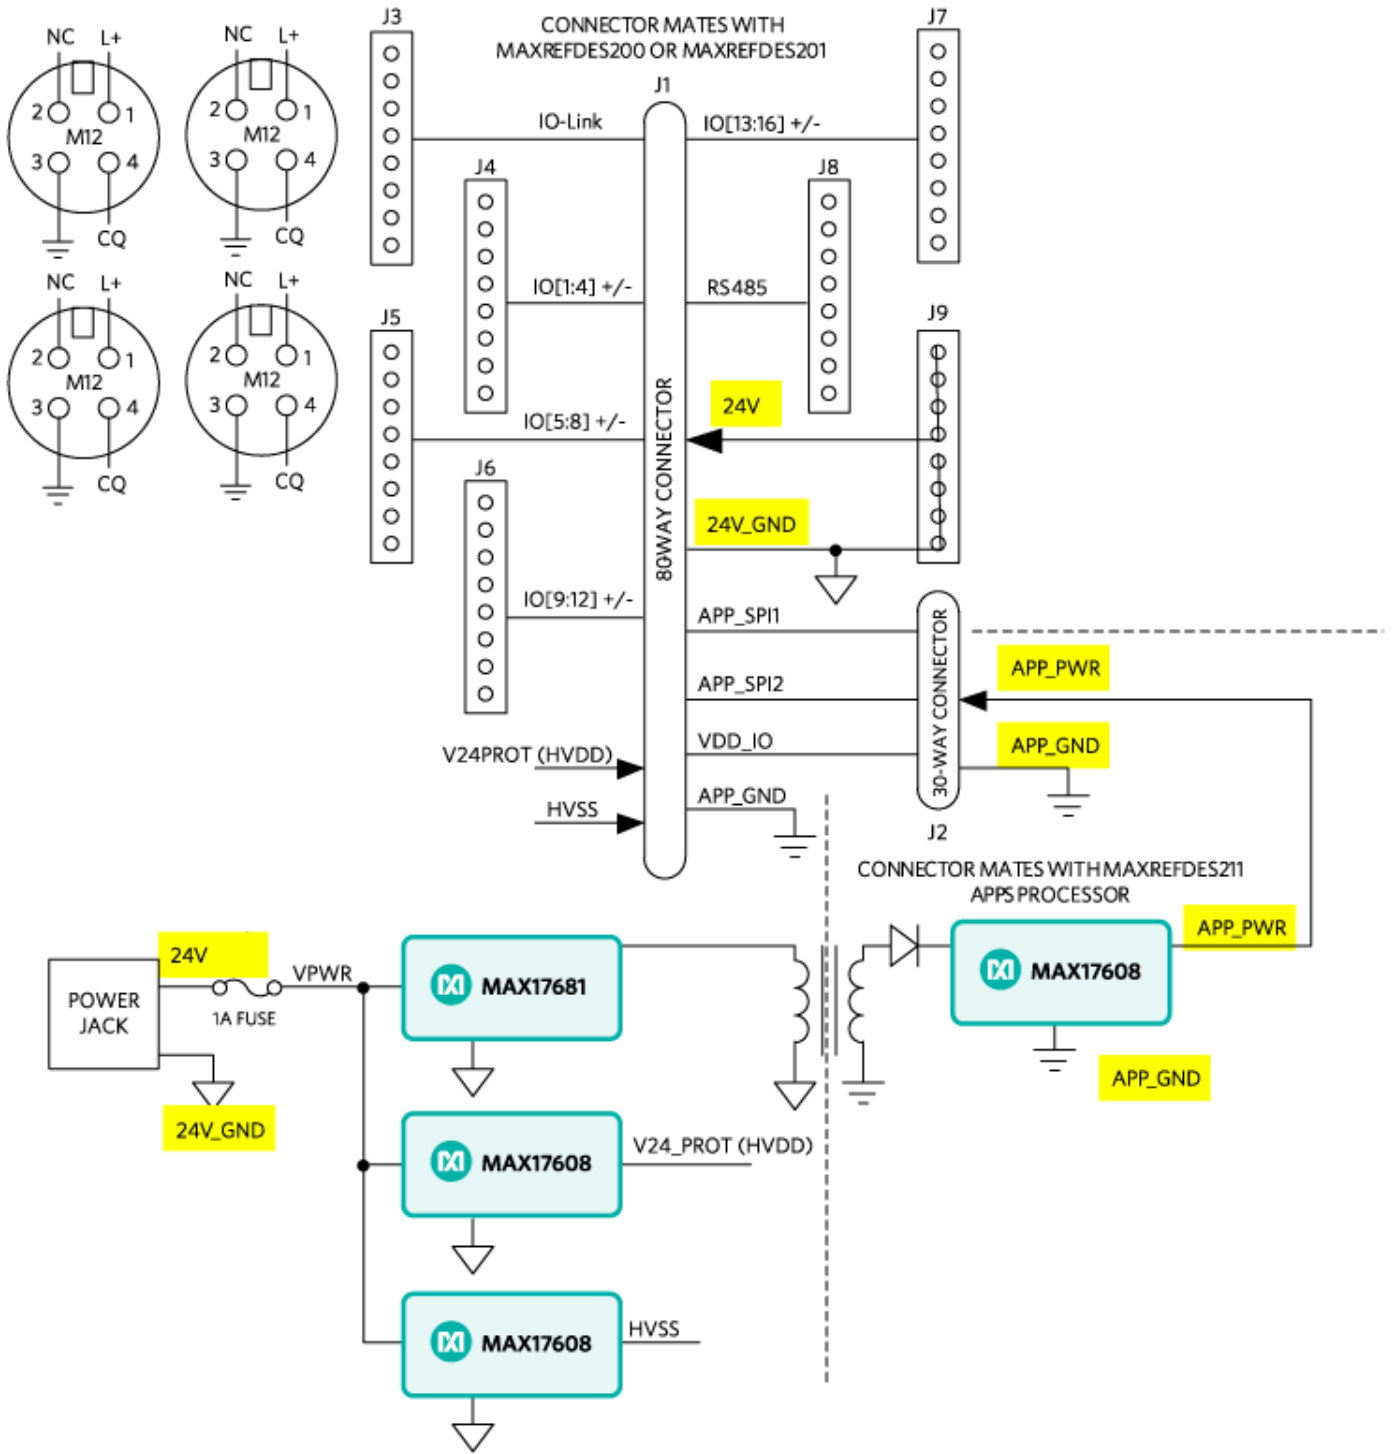

Figure 2. MAXREFDES215# block diagram.
**Figure 2** shows the system block diagram for the MAXREFDES215#.